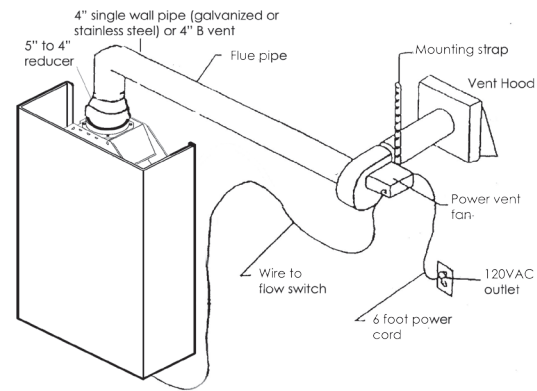

Fig. 5 Venting setup
1. Install 5" to 4" reducer pipe on top of the water heater and then connect a 4" 90° elbow to begin the horizontal run. Use 4" vent pipe to connect from this elbow to the power vent motor inlet, avoiding elbows when possible. The maximum vent length from the water heater to the point of termination is 25 feet with one elbow. (Fig. 5) If using more than one 90° elbow, subtract 5 feet off the maximum vent length for each additional elbow used. **A maximum of three elbows is allowed. The minimum straight vent length is 2 ft.**